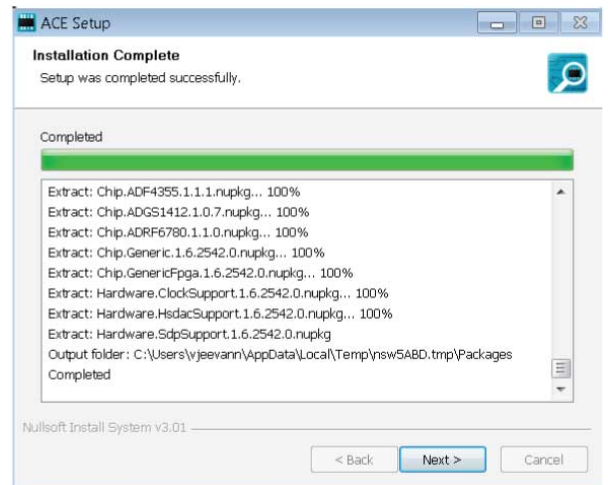

Figure 14. Installation Complete
9. When the installation is complete, click **Next >** (see Figure 14), and then click **Finish** to complete the installation process.